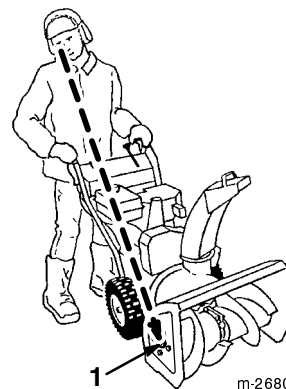

Figure 27
10. Make sure that the auger and impeller do not rotate while the auger/impeller drive control lever is in the *Disengaged* position. Stand in the operating position and look around to the side of the auger housing (Fig. 27). A large screw head on the side of the auger housing rotates whenever the auger and impeller rotate (Fig. 27). **If the auger and impeller rotate while the engine runs and the auger/impeller drive control lever is disengaged, stop the snowthrower immediately.** Refer to *Adjusting the Auger/Impeller Drive Belt* on page 22. If the problem persists, take the snowthrower to an Authorized Service Dealer for service.